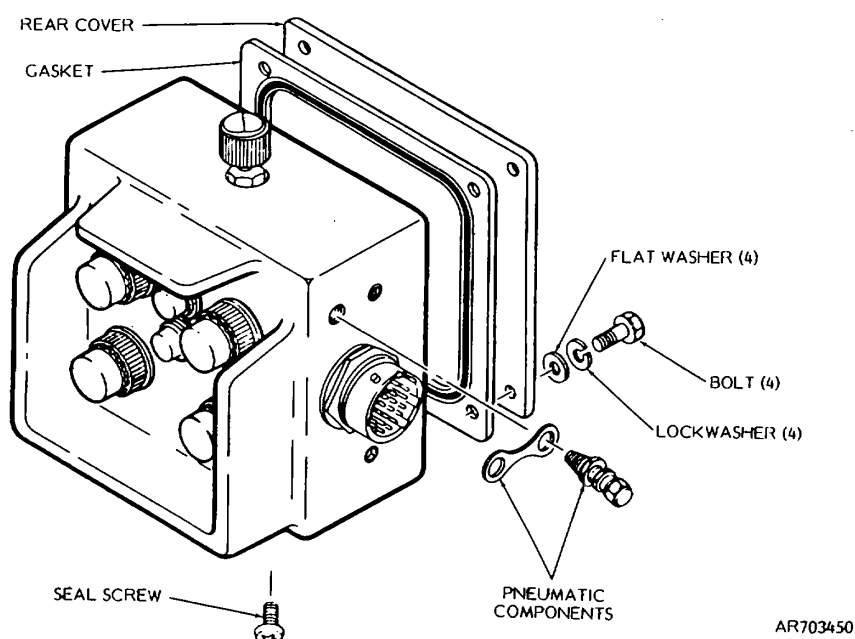

Figure 3-21. Repair of ammo select unit housing.
- (6) Purge and pressurize unit (para 2-3).
a. *General.* The ammo select unit housing is repaired by replacing components as shown in figure 3-21. Purge and pressurize the unit (para 2-3) whenever the rear cover is removed and installed, or when the unit is returned to the supply system or higher maintenance.